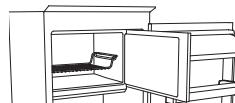
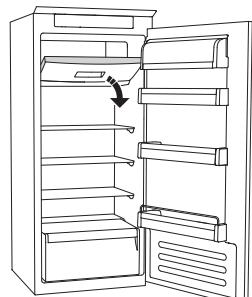

Figure 1
Figure 2
- arrange the food on the grille, if present (figure 1), or directly on the bottom of the compartment (figure 2)
- put the food in the middle of the ******* compartment without it coming into contact with food that is already frozen, keeping a distance of about 20 mm (figure 1 and 2).
The STOP FROST SYSTEM (available depending on the model) facilitates the defrost procedure for the freezer compartment. The STOP FROST accessory (figure 1) is designed to collect some of the frost that forms in the freezer compartment and it is easy to remove and clean, therefore reducing the time needed to defrost the inside of the freezer compartment.
- Open the freezer compartment door and remove the upper drawer (figure 2).